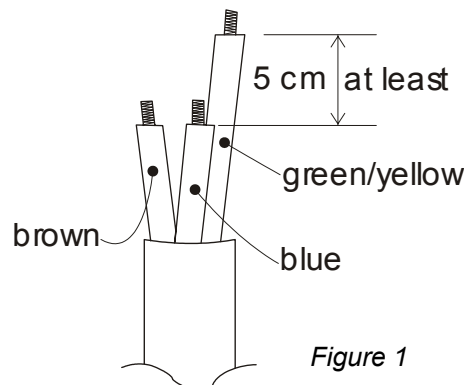

Figure 1
3. Cut the cable at length in accordance with figure 1. Strip the three conductors for 8mm.